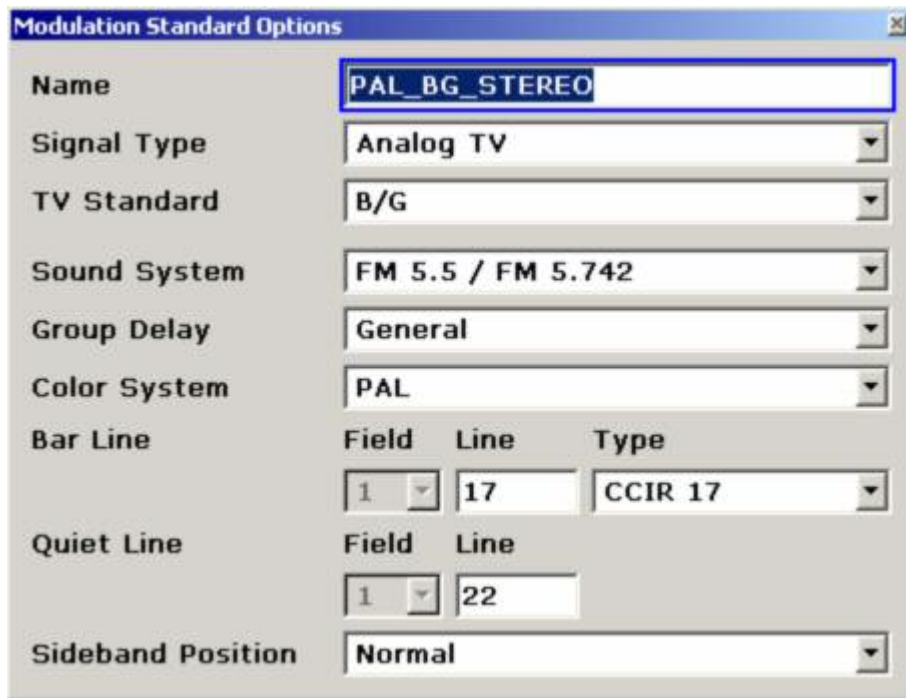

Fig. 2-66 Analog TV modulation standard PAL\_BG\_STEREO
The **Modulation Standard Options** dialog box appears (see for example Fig. 2-66).
- The **Modulation Standard Options** dialog box should now look as in Fig. 2-66.